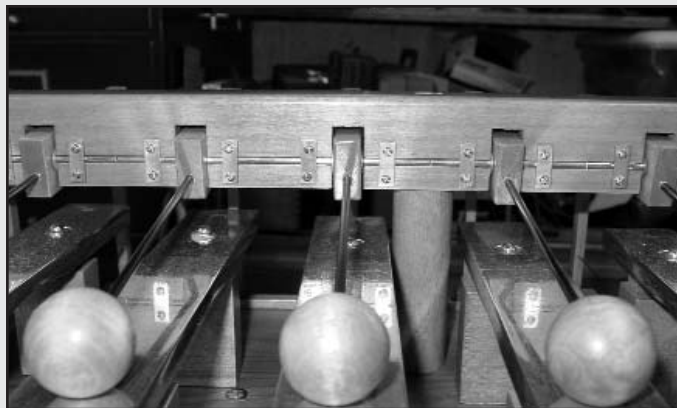

Figure 36. Front detail view of the bell action. The bars are a vintage set that was salvaged from a fire.
selected by the arranger. One register (key 46) brings two ranks of violins into play, with a second register (key 68) adding two more violin ranks. The piccolo register (key 11) consists of one rank of brass body panflutes with nodal holes backed by another rank of open harmonic flutes (Figure 35). The twenty-one aluminum bells are the final melody register (key 47). The bell action was constructed in the Gavioli style, replicating the action that was originally present (Figures 36 & 37).